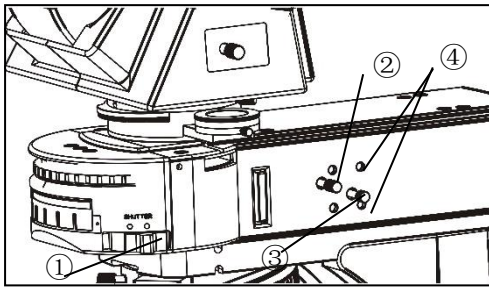

Figure 22
**Reflected light in the light field observation (Figure 22)**
The aperture light bar (Figure 22 (3)) must be pushed to open the aperture light beam.